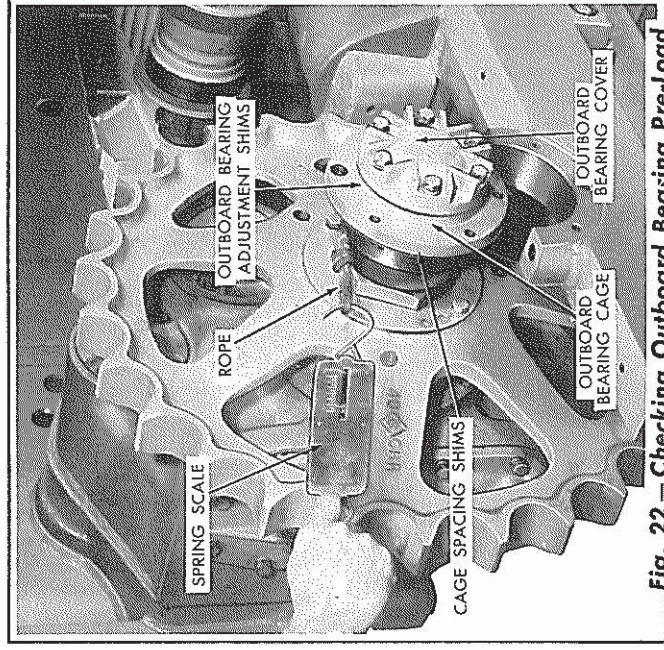

Fig. 22 — Checking Outboard Bearing Pre-Load
3. The outboard bearing must be adjusted for a pre-load of 8 to 13 inch pounds. A spring scale may be used to weigh the bearing pre-load, as shown in Fig. 22.